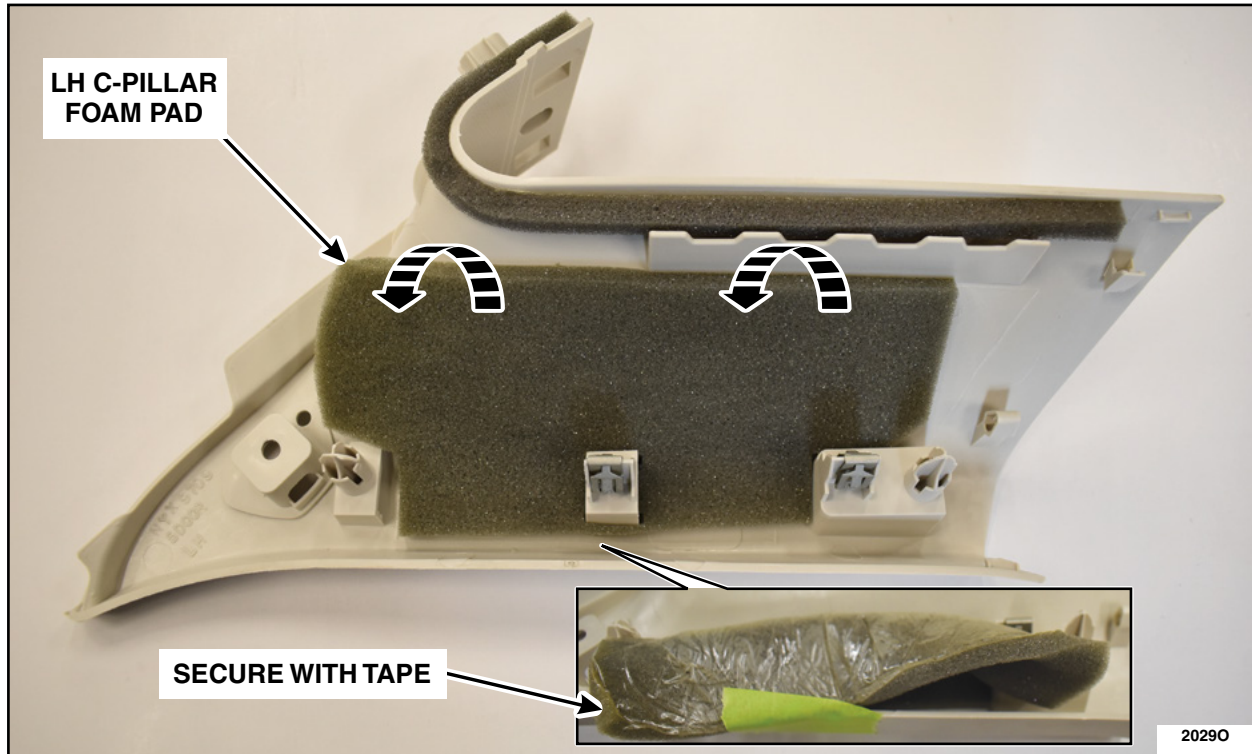

FIGURE 2
3. Fold back the Left Hand (LH) C-pillar foam pad and secure it with a piece of tape. See Figure 2.